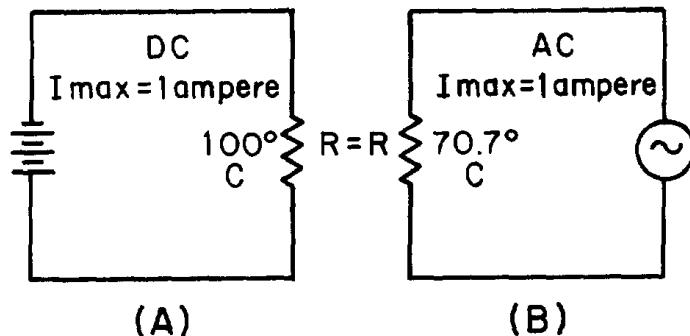

Figure 1-15.—Heating effect of ac and dc.
Figure 1-15 compares the heating effect of 1 ampere of dc to the heating effect of 1 ampere of ac.
Examine views A and B of figure 1-15 and notice that the heat ($70.7^\circ C$) produced by 1 ampere of alternating current (that is, an ac with a maximum value of 1 ampere) is only 70.7 percent of the heat ($100^\circ C$) produced by 1 ampere of direct current. Mathematically,
Stated another way, the effective or rms value (I_{eff}) of a sine wave of current is 0.707 times the maximum value of current (I_{max}). Thus, $I_{\text{eff}} = 0.707 \times I_{\text{max}}$. When I_{eff} is known, you can find I_{max} by using the formula $I_{\text{max}} = 1.414 \times I_{\text{eff}}$. You might wonder where the constant 1.414 comes from. To find out, examine figure 1-15 again and read the following explanation. Assume that the dc in figure 1-15(A) is maintained at 1 ampere and the resistor temperature at $100^\circ C$. Also assume that the ac in figure 1-15(B) is increased until the temperature of the resistor is $100^\circ C$. At this point it is found that a maximum ac value of 1.414 amperes is required in order to have the same heating effect as direct current. Therefore, in the ac circuit the maximum current required is 1.414 times the effective current. It is important for you to remember the above relationship and that the effective value (I_{eff}) of any sine wave of current is always 0.707 times the maximum value (I_{max}).